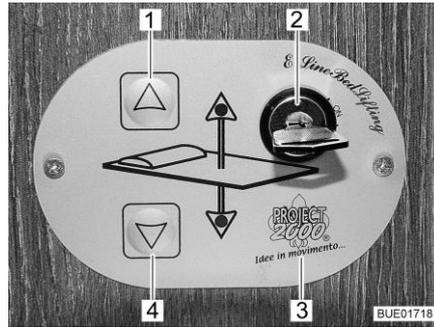

Fig. 137 Control unit
The pull-down bed is raised or lowered using the buttons (Fig. 137,1 and 4) on the control unit (Fig. 137,3). The control unit is protected against unauthorized use with the key switch (Fig. 137,2).
- Turn the key in the key switch (Fig. 137,2) by 90° in a clockwise direction to position "On". The control unit (Fig. 137,3) is activated.
- Press the arrow key (Fig. 137,4) and keep it pressed until the pull-down bed has moved down into the desired position.
- Press the arrow key (Fig. 137,1) and keep it pressed until the pull-down bed has moved down into the final upper position.
If it is no longer possible to move the pull-down bed with the arrow keys (Fig. 137,1 and 4), first of all check the fuses (see section 9.11.1). If the fuses are okay and it is still not possible to move the pull-down bed, the pull-down bed can be operated manually.